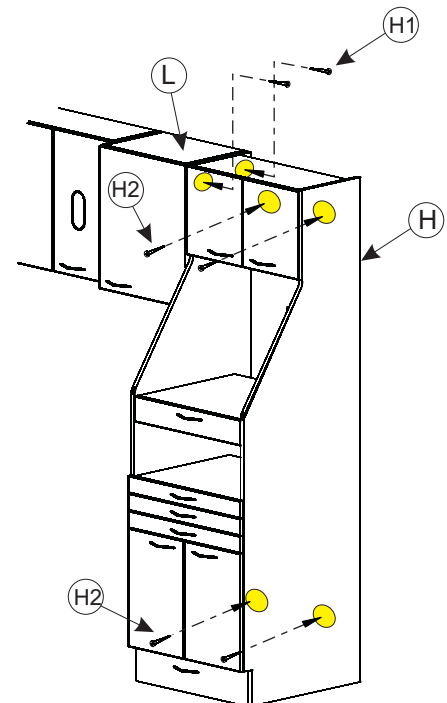

Figure 4B
The Sterilization Cabinet (H) may be secured to the Wall Cabinet and/or the wall if so desired. Recommended locations for doing so are shown (see Figure 4B). Use a maximum of 1-1/8" long wood screw (H1) to attach thru the upper storage area to the wall cabinet. Use a proper wall fastener (H2) to secure to the wall thru the back panel.